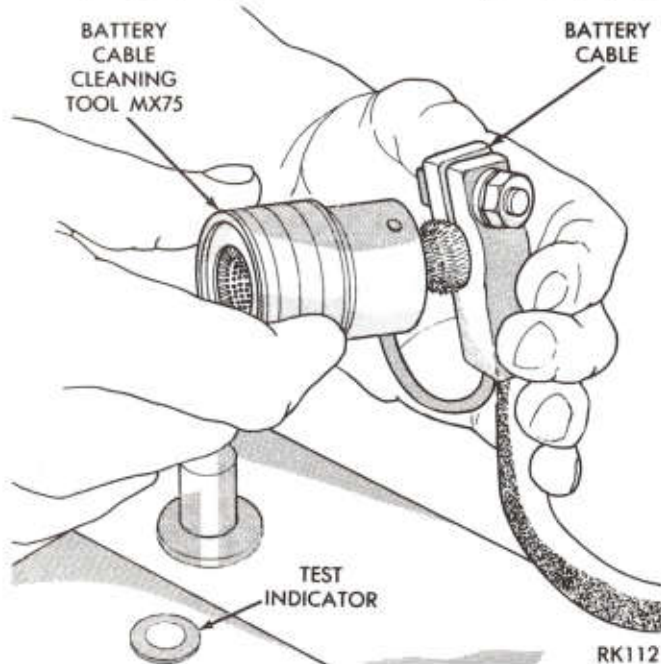

Fig. 7—Cleaning Battery Cable Terminal
(8) Clean inside surfaces of terminal clamps with a suitable battery terminal cleaning tool (Fig. 7). Replace damaged or frayed cables and broken terminal clamps.
(9) Inspect battery for proper or damaged hold down ledge.